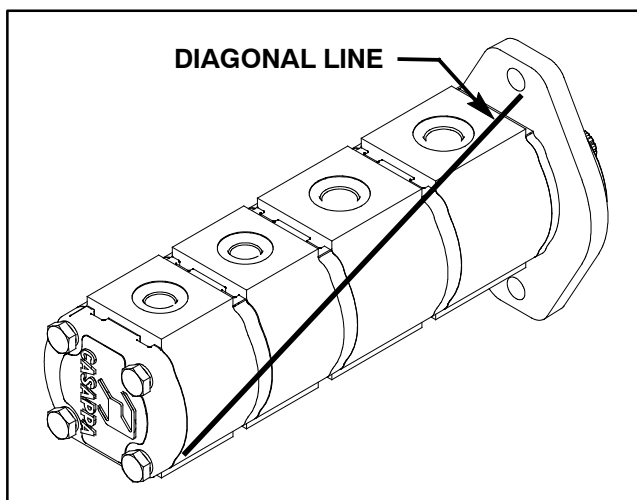

Figure 67
2. Use a marker to make a **diagonal** line across the gear pump for assembly purposes (Fig. 67).